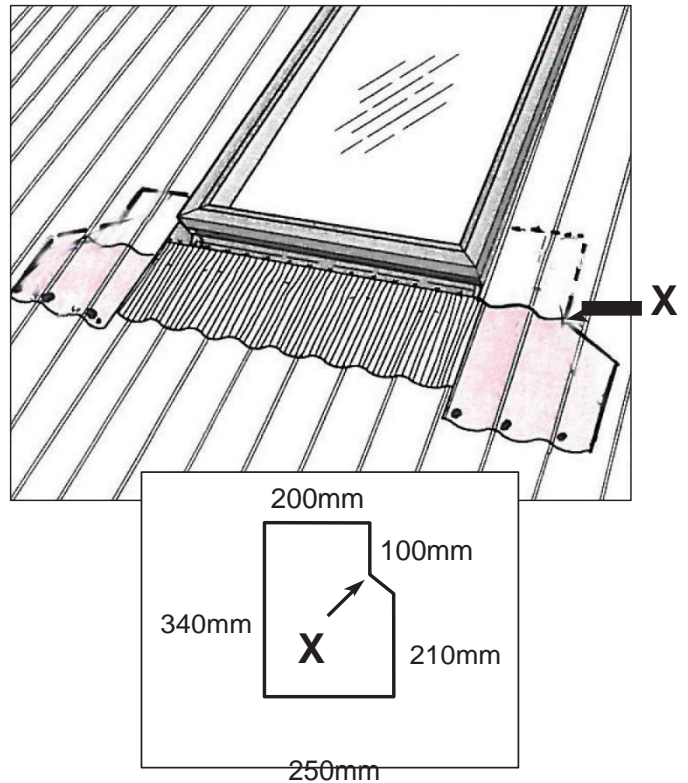

Fig 18
- 28) See Fig 18: Two roofing material fillets need to be made to the dimensions shown in Fig 18, one left hand – one right. These can be made from the piece of roofing iron cut out for the skylight. Use the same color iron as the roof off cuts. The fillets are designed to slide hard up under each corner. The point “X” must be on a high point of the profile of the roof. Ensure no ragged edges that may cause the mat to rip. They can then be attached at the bottom edge to the roof with pop rivets. The iron that goes over the fillet can then be pop riveted to the fillet to hold it down. Do not screw or pop rivet through skylight flashing. NOTE: Silicone over the pot rivets. These fillets are required to weatherproof the skylight – failure to carry out this function may cause leaking.